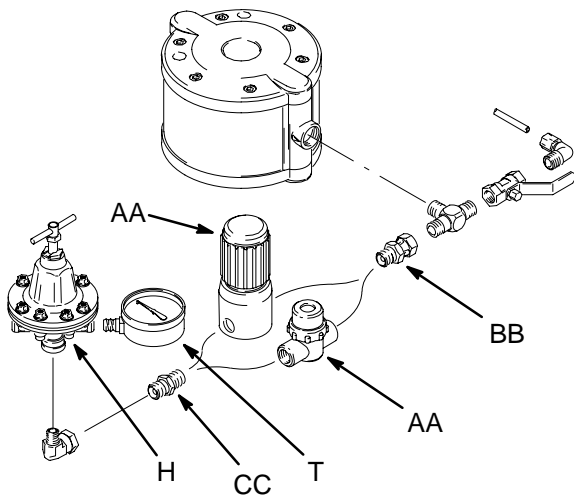

Fig. 2
Refer to Fig. 2. Install the fluid filter between the pump fluid outlet and the gun fluid hose connection. If a fluid regulator (H) is present, it must be rotated so the gauge (T) will clear the filter.